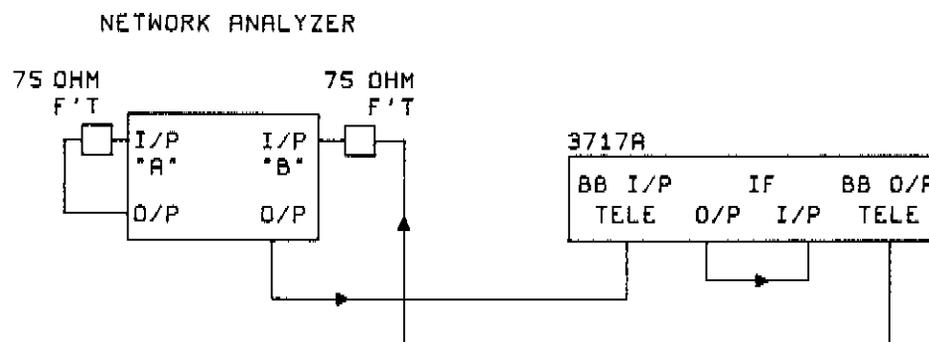

Figure 4-12 BB-to-BB Frequency Response Test
6. Connect the "B" OUTPUT of the Analyzer to the TELEPHONY BB INPUT and the "B" INPUT to the TELEPHONY BB OUTPUT of the 3717A as Figure 4-12. Re-adjust the Amplitude Zero controls to obtain a 0.00dB reading, and if necessary readjust the offset control for a display.